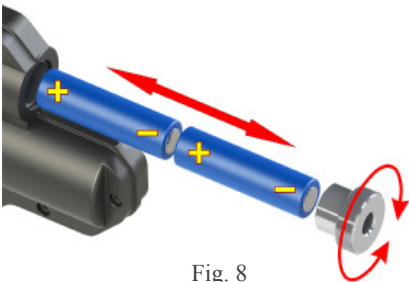

Fig. 8
- insert two accumulator batteries as shown in Fig. 8, making sure you observe the polarity;